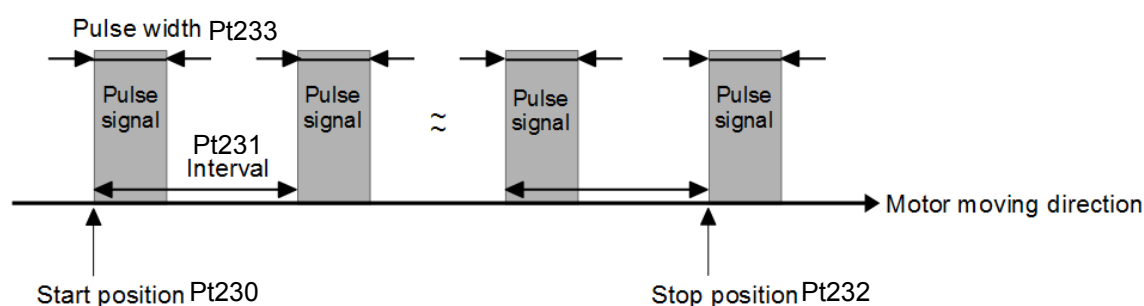

Figure8.13.1
E1 series servo drive provides position trigger (PT) function. When motor moves to the set position, the servo drive simultaneously outputs a pulse signal. The width and interval of the pulse signal can be user-defined, as figure 8.13.1. Position trigger function has no human machine interface, so its related parameters must be set via PDL or MPI. The hardware pins for position trigger digital output (PT) signal are CN6 46 and 47 (3.3 V). The signal can be allocated to digital outputs O1~O5 (24 V), if users cannot support such voltage level. Position trigger (PT) function is mainly used in application which requires simultaneous in-position signal for high-speed and high-precision processing, such as laser equipment, line scan camera and lithography equipment.